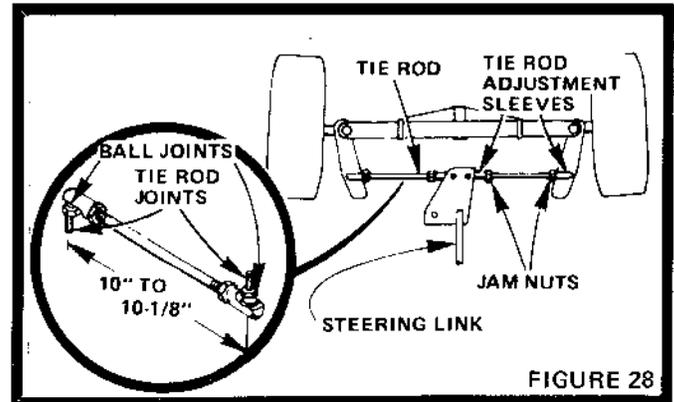

FIGURE 28
- Move Rubber Boots to expose Ball Joints on Tie Rods and Steering Link (Fig. 28).
- Loosen Jam Nuts (Fig. 28) at each end of Tie Rod Adjustment Sleeves.